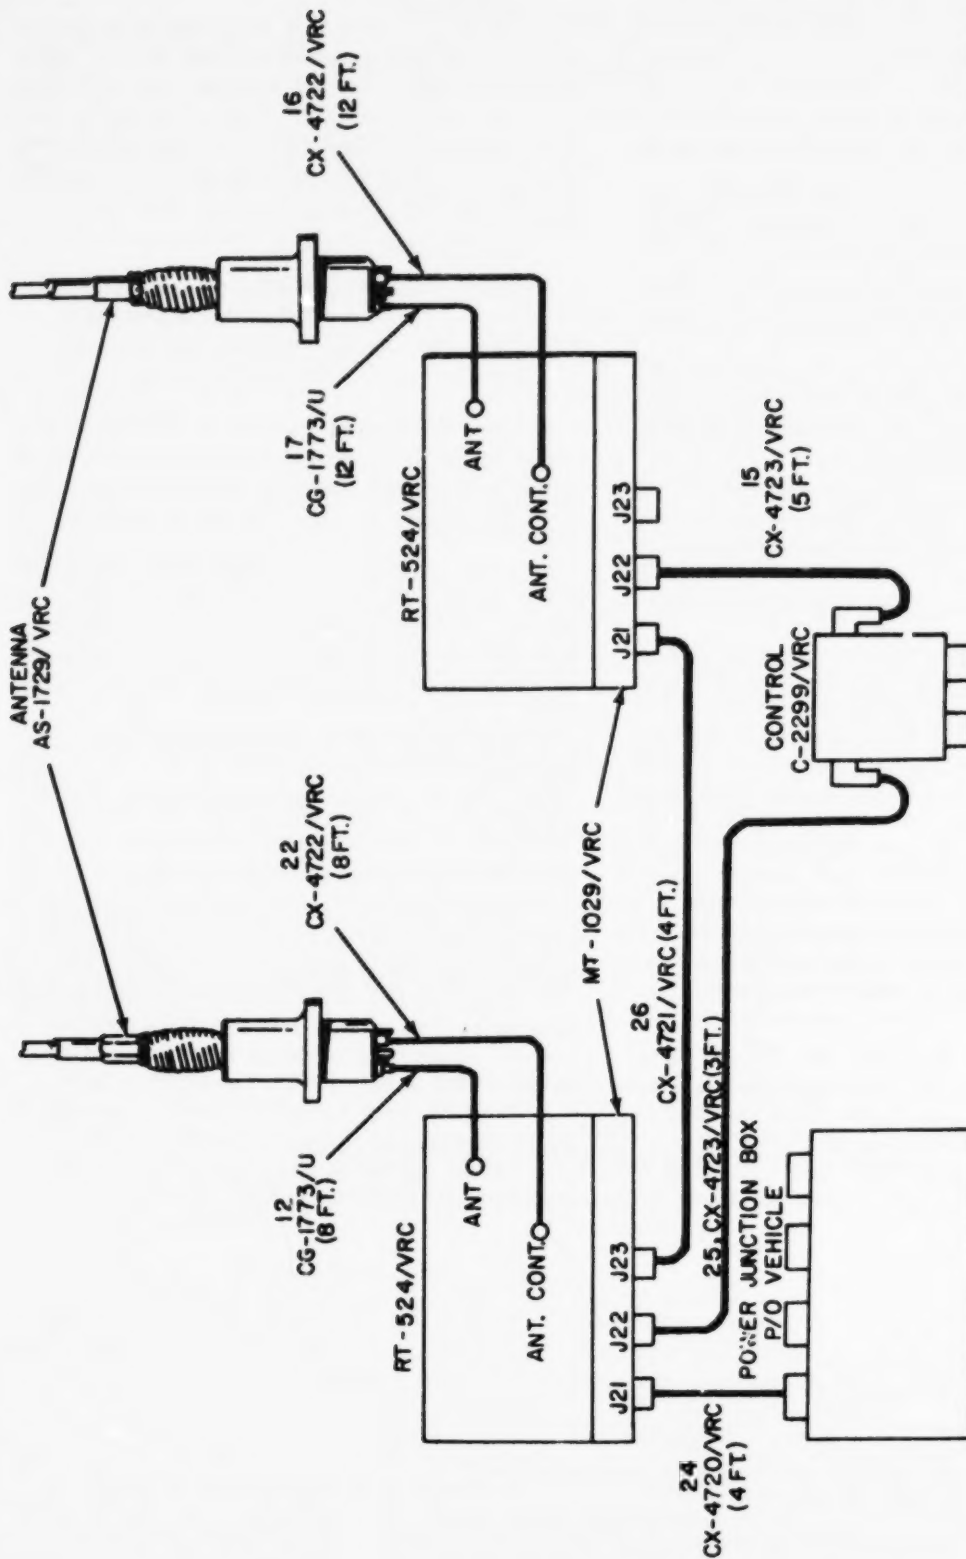

Figure 2-3. Cabling Diagram for MK-1815/VRC-49.
e. Assemble connector adapter (3) and connector plug (4) to cable assembly (24). Connect Cable Assembly, Power CX-4720/VRC (24) figure 2-3 to J-21 of Mounting MT-1029/VRC and to junction box as shown in figure 2-3.
f. Connect Cable Assembly, Special Purpose CX-4721/VRC, (26) figure 2-3, to J-23 of MT-1029/VRC.
g. Connect Cable Assembly, CX-4723/VRC, (25) figure 2-3, to J-22 of MT-1029/VRC and to left side of Control C-2299/VRC (1).
- l. Connect the free end of Cable Assembly CX-4721/VRC, (26) figure 2-3, to J-21 of the lower Mounting MT-1029/VRC.